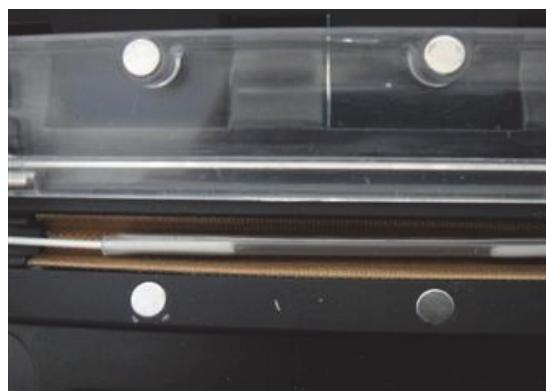

Figure 2-21 The Effect of Heating
(4) Place fiber with protection sleeve in sleeve heater, straighten the optic fiber lightly and make sure protection sleeve 's left end is aligned with the heater's left end, as shown in figure 2-21. Then close heater cover.
(5) Select 【Sleeve Heating Mode】 and the heating parameters. If it is the same with last time, you may skip this step.
(6) Enter the heating key "  " to start heating. The heat indication light is on. Press heat shrinkage key "  " in the process of heating, the heating will be canceled.
(7) When heating is completed, the heat indication light is off. Users need to immediately turn on the heater cover and remove the optical fiber, as shown in Figure 2-21. (Note: Do not use your hand to touch the heated protection sleeve to prevent being burned.)